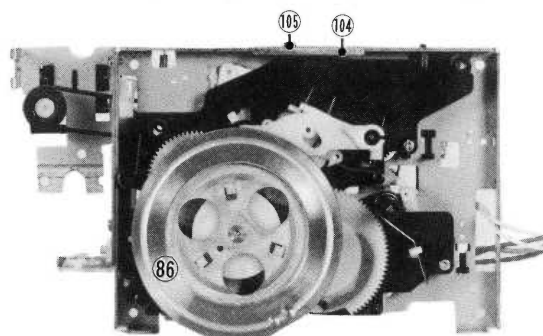

Fig. 30
10. Main base ass'y (1) and disk base unit (4) (Fig. 30, 31)